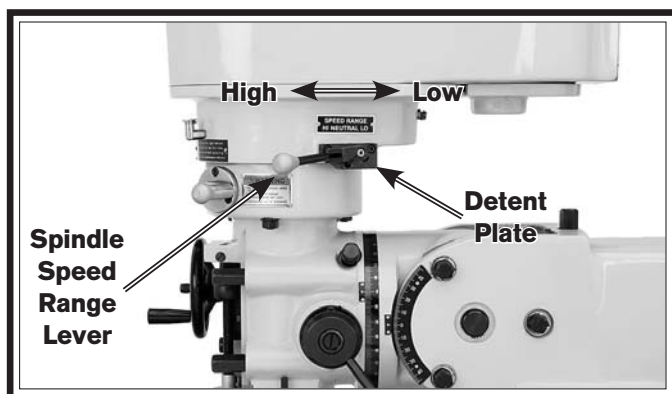

Figure 37. Spindle speed range selector.
3. Press the spindle speed range lever (shown in **Figure 37**) toward the head to release the pin from the detent plate, then move selector so that the pin is over the other detent and release it.